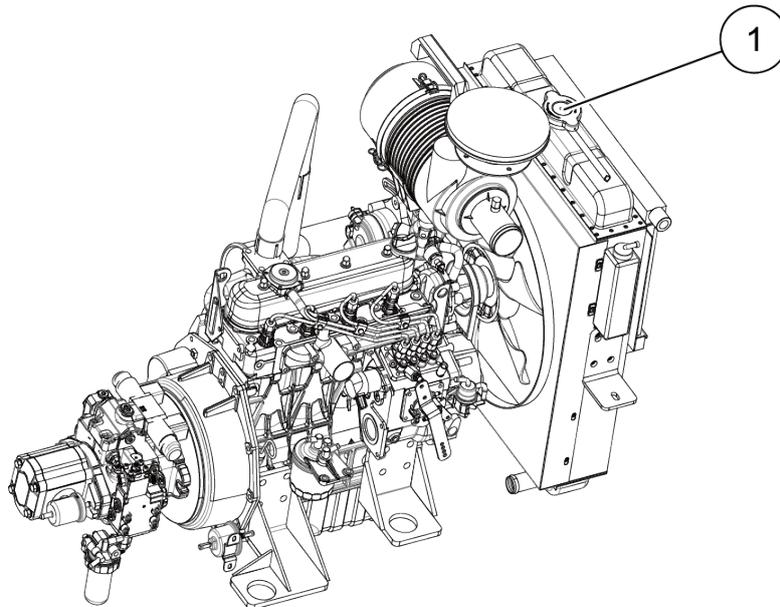

Figure 5-37 Add coolant
(1) Fuel tank cap (2) Level gauge
Step 3: Add fuel through the fuel injection port and observe the fuel level through the fuel level gauge (2). The fuel level cannot exceed the upper limit of the fuel level gauge;
Step 4: After refueling, tighten the fuel tank cap (1).
Step 2: Carefully clean the pressure cap (1) at the top of the radiator, and slowly unscrew the pressure cover (1). as shown in Figure 5-37;